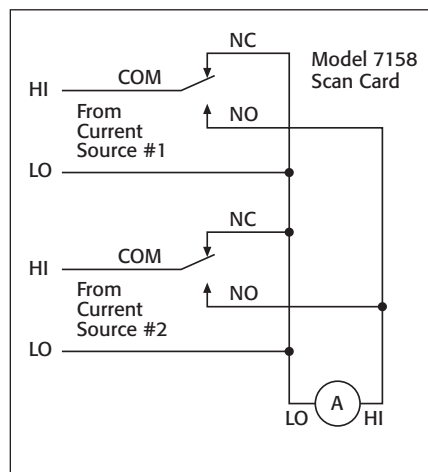
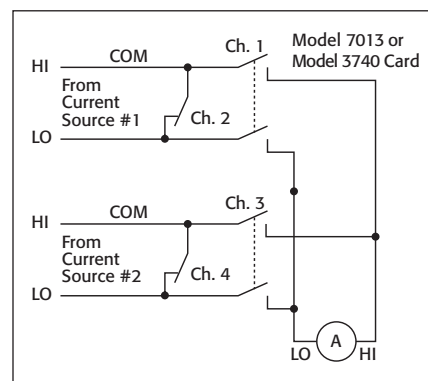

Figure 1. Using Form C relays to switch multiple current sources
Figure 2. Using Form A relays for uninterrupted current switching
Most current measurement applications demand that all current paths be continuous, even when a particular current signal is not connected to the ammeter. To accomplish this, switch cards designed for current switching often use SPDT or Form C relays (see *Figure 1*).
As illustrated in *Figure 1*, when a channel is in an open state (i.e., not connected to the output), signal HI (i.e., is connected to signal LO through the normally closed (NC) contact. In this case, only signal HI is switched. Signal LO is hard-wired to the ammeter and to all other signal LOs. This is typically the case when testing components with relatively low currents (e.g., 1 μ A). When a channel is selected, the current source is connected to the ammeter through the normally open (NO) contact. Note that the current will be interrupted briefly when the Form C relay is actuated. This could cause problems when used with high speed logic or other circuits sensitive to a momentary break in the current flow. Such a problem can be overcome by using a switch card with a pair of Form A isolated switches to provide a make-before-break connection, as illustrated in *Figure 2*. The Model 3740 32-channel isolated switch card, designed for use with the Series 3700 Switch System/Multimeter (*Figure 3*), combines the best of both worlds, offering 28 general-purpose form C channels that are ideal for routing power; for higher power applications of up to 7A, the card includes four additional high current form A channels.